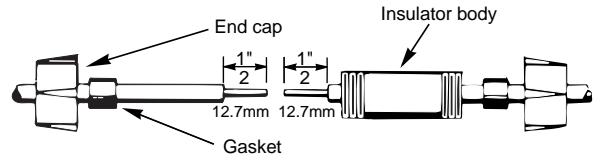

Figure 7 – Ready to splice
- Unscrew plastic caps from insulators. Place a cap and neoprene gasket sleeve on each wire to be spliced (see Fig. 7).
- Slide insulator body onto one wire end (Fig. 7).